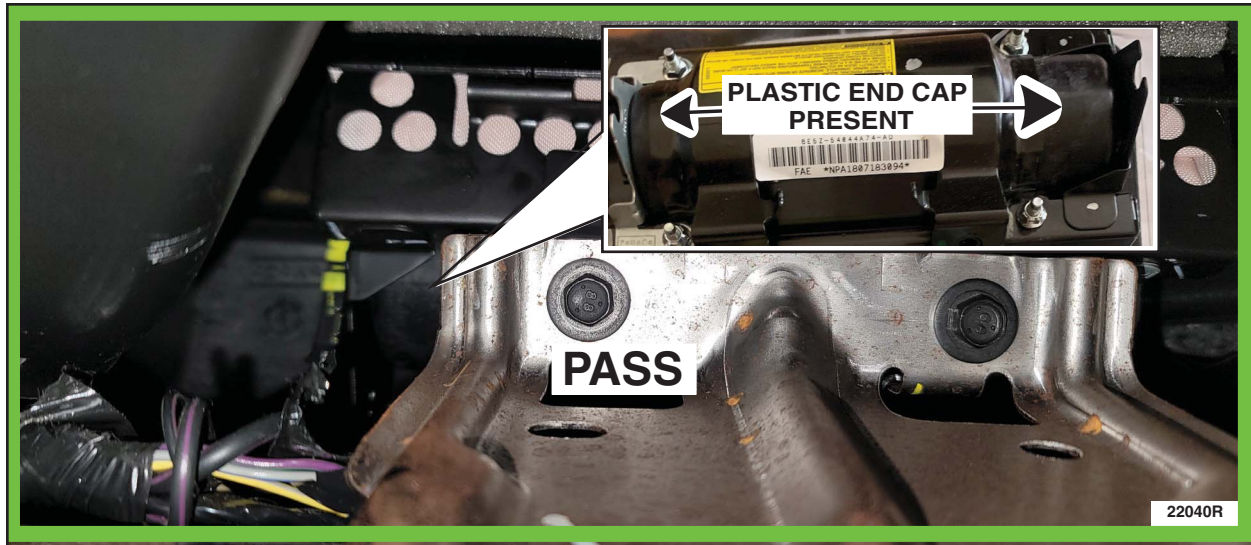

FIGURE 1
1. Fully lower the glove compartment door. Through the glove compartment opening, look up at the passenger airbag module. Inspect the passenger airbag inflator end for the presence of a plastic end cap as shown in Figures 1 and 2. Are the plastic end caps present on the airbag inflator?
Yes: Inspection **PASS** See Figure 1. - No Repair Is Needed